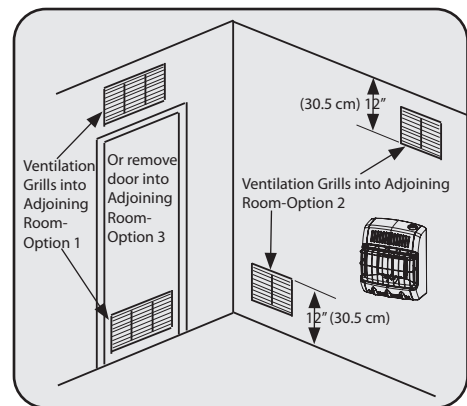

Figure 2
- Rework worksheet, and the space of an adjoining room. If the extra space provides an unconfined space, remove door to adjoining room or add ventilation grills between the rooms. See Ventilation From Inside Building (Fig. 2)
figure 2). You can also remove door into adjoining room (see option 3, fig 2). Follow the National Fuel Gas Code NFPA 54/ ANSI Z223.1, Section 5.3, Air for Combustion and Ventilation for required size of ventilation grills or ducts.